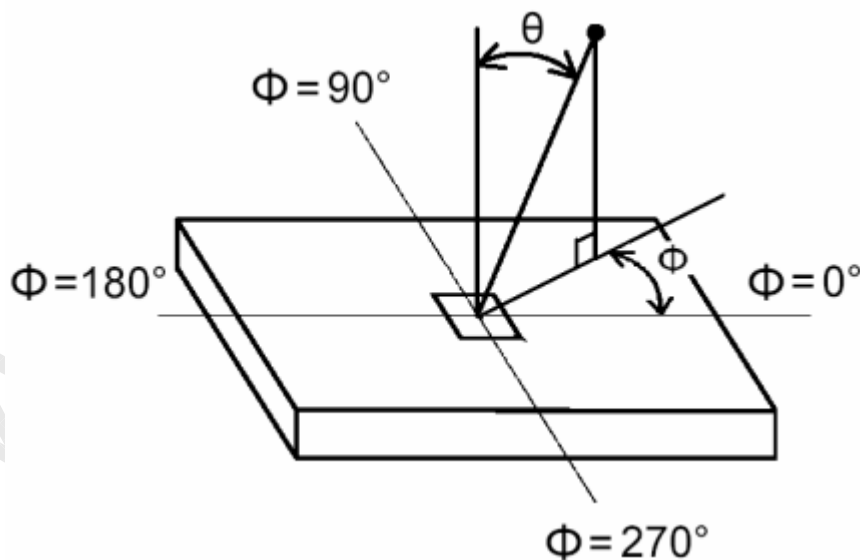

FIG.4 Viewing angle
5. Viewing angle is the angle at which the contrast ratio is greater than 10. The angles are determined for the horizontal or x axis and the vertical or y axis with respect to the z axis which is normal to the LCD surface. For more information see FIG4.